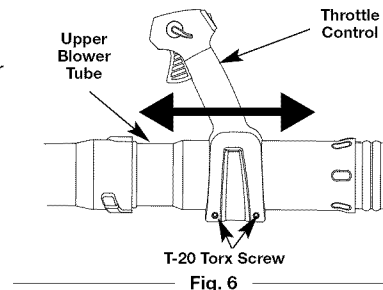

Fig. 6
1. Move the throttle grip to a location on the upper blower tube that provides the best grip (Fig. 6).
2. Using a T-20 Torx® screwdriver, tighten the two screws at the bottom of the throttle grip (Fig. 6).